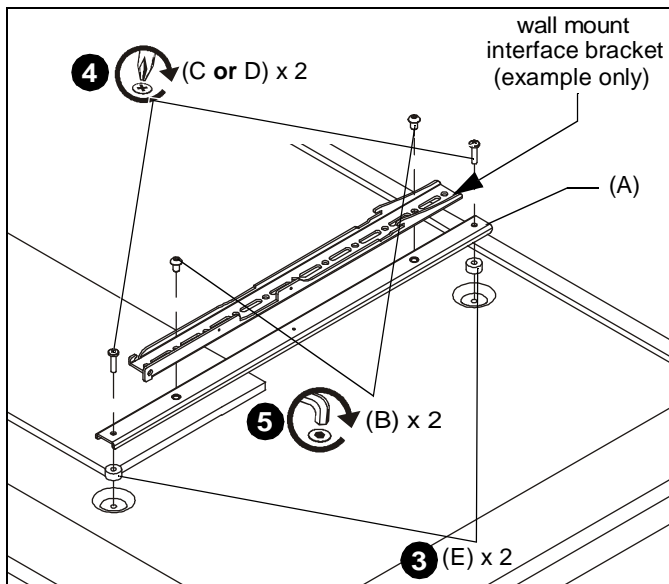

Figure 1
3. Position two spacers (E) over two holes on back of display. (See Figure 1)
4. Install two M6 x 25mm Phillips head cap screws (D) **OR** two M6 x 20mm Phillips head cap screws (C) through channel bracket (A), spacer (E) and into back of display. (See Figure 1)
5. Use two M8 x 12mm button head screws (B) to secure wall mount interface bracket to channel bracket (A). (See Figure 1)